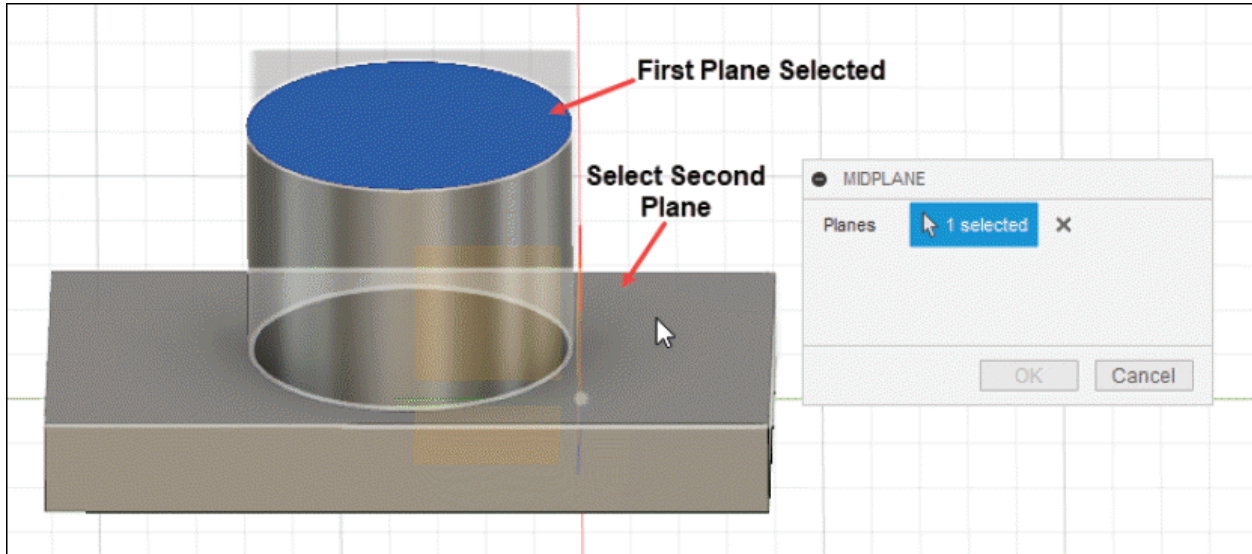

Figure-83. Selection of face to create midplane
- Now, you need to select two planes or faces to create a mid plane; refer to Figure-83.